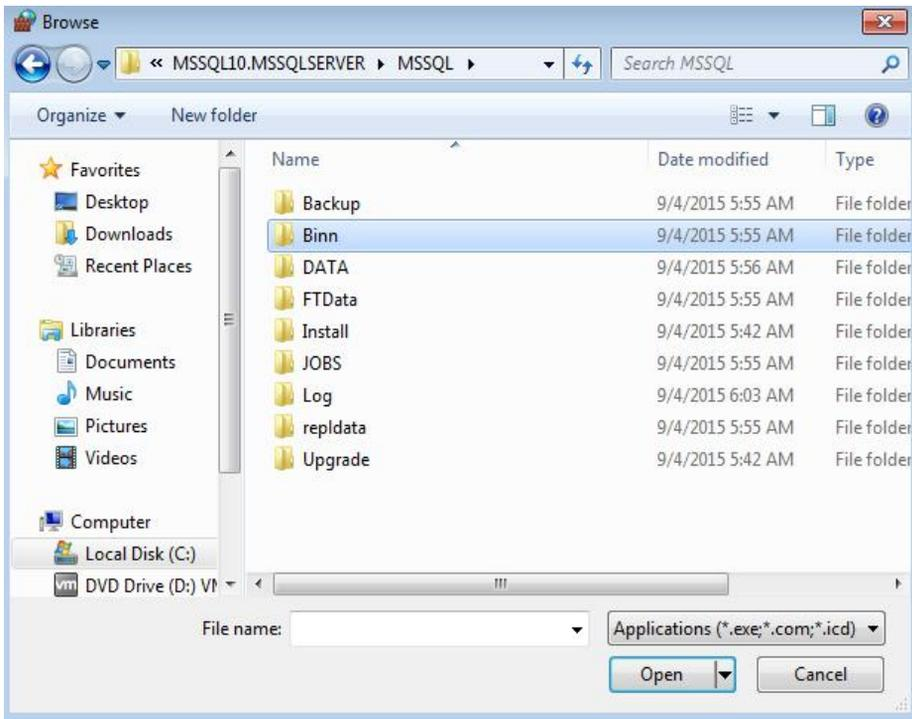

Fig.1.23 MSSQL
(10) Open "Binn" folder (see Fig.1.23).